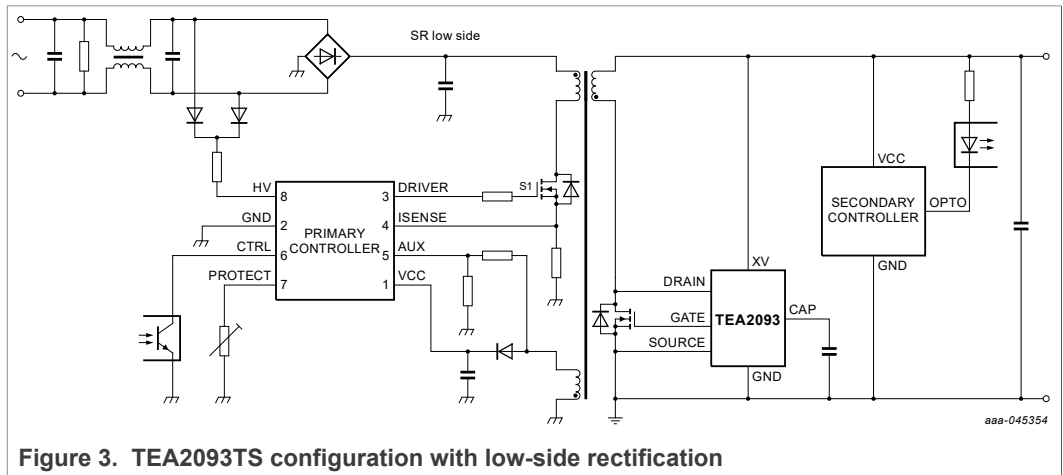
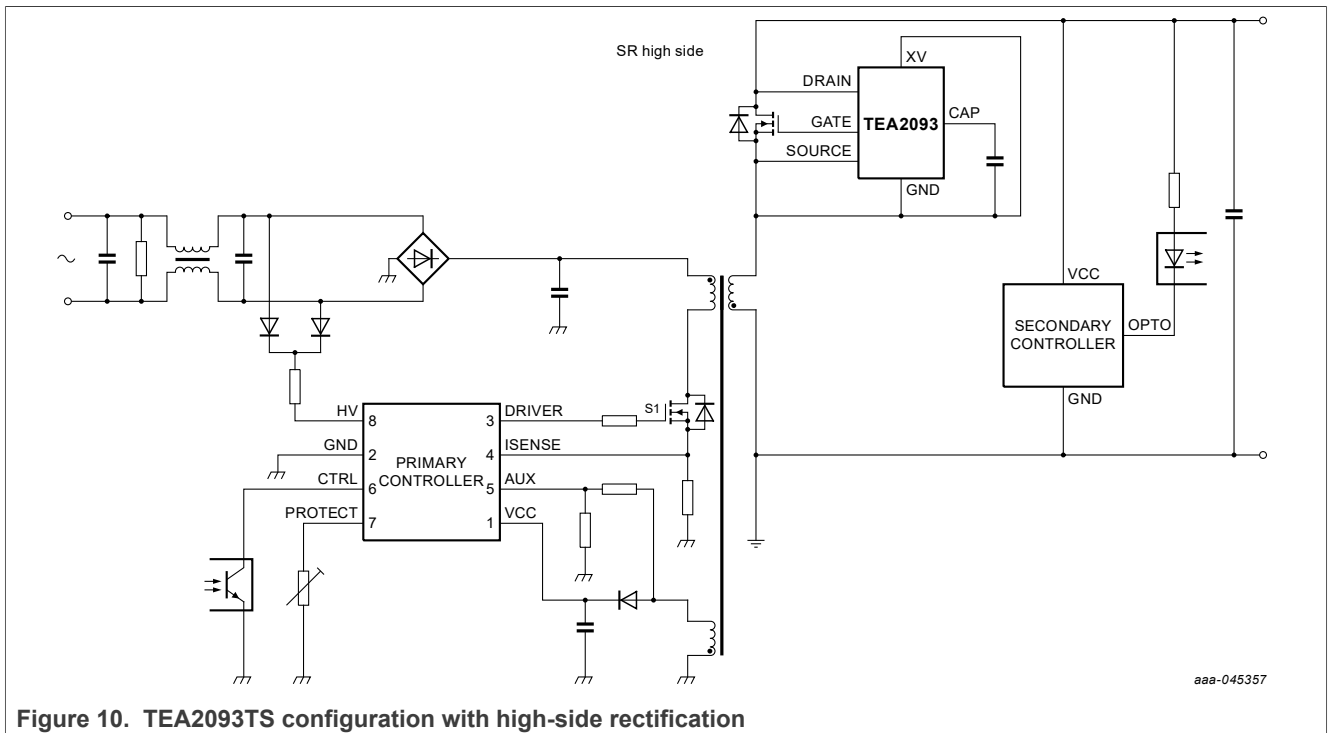

Figure 3. TEA2093TS configuration with low-side rectification
Figure 10. TEA2093TS configuration with high-side rectification
The TEA2093TS is a controller IC for synchronous rectification (SR) in asymmetrical half-bridge flyback and standard flyback applications. It can drive the external synchronous rectifier MOSFET for the rectification of the voltage on the secondary winding of the transformer. Figure 3 shows a typical configuration.
The maximum output voltage of the driver is limited to 12 V. This high output voltage drives all MOSFET brands to the minimum on-state resistance. In applications where the IC is supplied with 5 V, the maximum output voltage of the driver is 4.2 V and logic level SR MOSFETs can be used (see Figure 3).
A flyback switched mode power supply with the TEA2093TS consists of a primary side controller with a primary switch, a transformer, and an output stage. To obtain low conduction loss rectification, an SR MOSFET is used in the output stage. The SR MOSFET can be placed low-side (see Figure 3) or can be placed high-side (see Figure 10). In the high-side application, the TEA2093TS is self-supplying. The capacitor on the CAP pin supplies the TEA2093TS. When the drain voltage is positive, it is charged via the DRAIN pin.